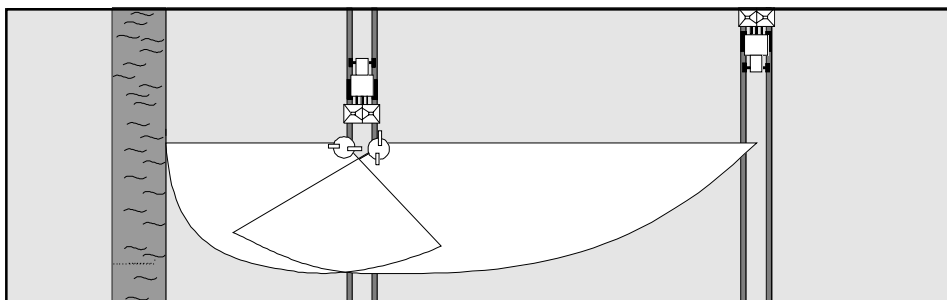

Fig. 7.19
For boundary spreading (according to the draft of fertiliser application decree) (Fig. 7.19) resp. **spreading to field sides** (beside owned, evenly to be treated areas) (Fig. 7.20) **exchange** the **left hand "Omnia-Set"** spreading disc (left hand side border spreading - normal case), seen in driving direction, **for** the corresponding border spreading disc **"Tele-Set"**. For right hand border spreading a special border spreading disc is available on request.
7.6.1.1 Boundary spreading according to the fertiliser application decree (Fig. 7.19)
7.6.2 Setting the border spreading disc according to fertiliser decree (Fig. 7.19)